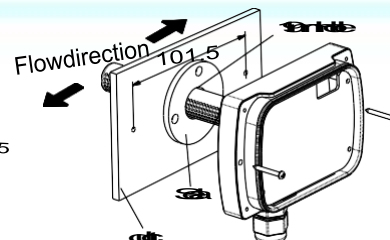

Fig.4
2. Install the enclosure directly on the duct as Fig.4. Drill a  $\phi 19\text{mm}$  hole on the duct, insert the probe into with the seal ring, and screw the enclosure on the duct directly.